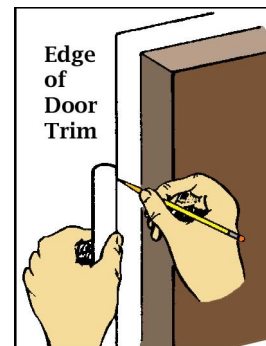

Figure 4
- **Step 6** Extend the fin lines the full length of the body tube, and extend the lug line up from the bottom of the tube to a distance of 6”. Use the straight edge of a door trim as a guide, as shown in Fig. 4. Mark the three fin lines at locations 5”, 9”, and 10.5” from the bottom of the tube. Mark the lug line 3” and 5” from the bottom of the tube.